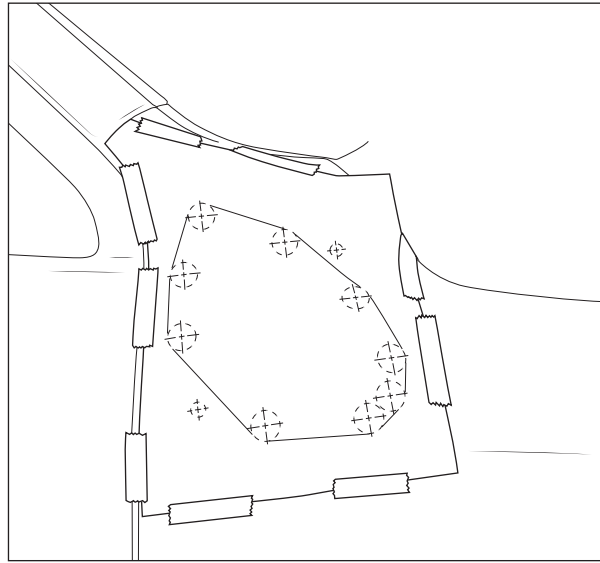

Figure 5
2. Trim the template per the instructions and tape to the fender (fig. 5).